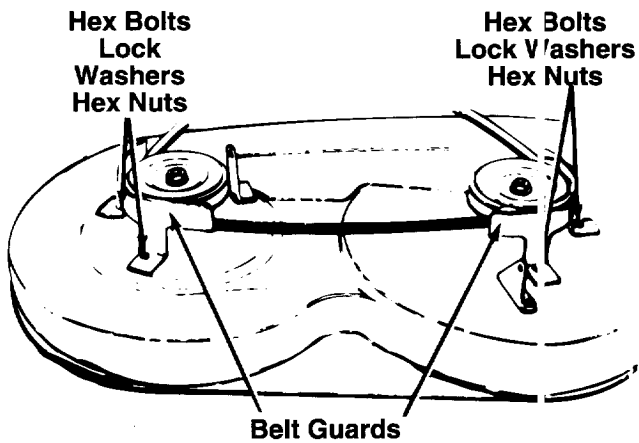

FIGURE 17.
7. Remove the belt guards at each deck pulley by removing the hex bolts, lock washers and hex nuts. See figure 17.